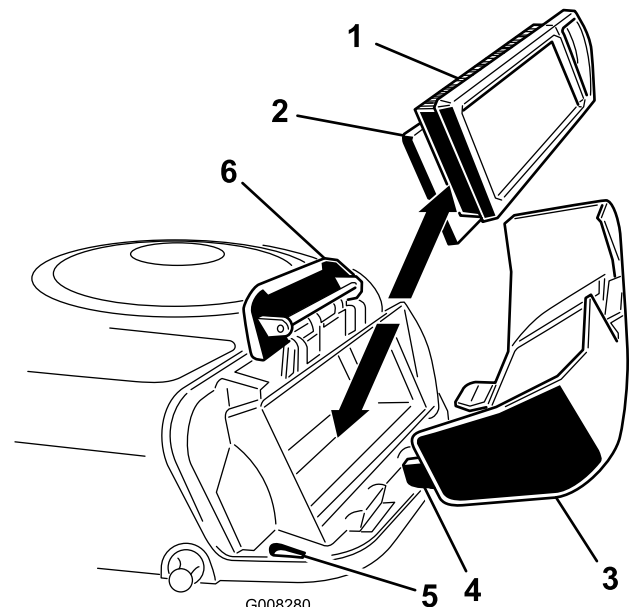

Figure 22
4. Carefully slide the paper element and the foam element from the blower housing (Figure 22).
2. Align the tabs on the air cleaner cover with the slots of the blower housing (Figure 22).